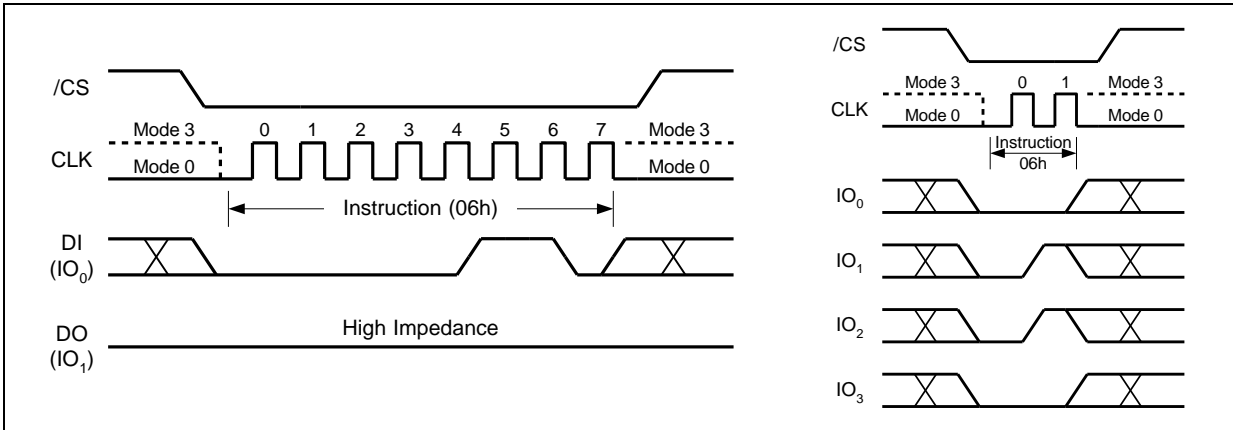

Figure 5. Write Enable Instruction for SPI Mode (left) or QPI Mode (right)
Instructions vary in length from a single byte to several bytes and may be followed by address bytes, data bytes, dummy bytes (don't care), and in some cases, a combination. Instructions are completed with the rising edge of edge /CS. Clock relative timing diagrams for each instruction are included in Figures 5 through 57. All read instructions can be completed after any clocked bit. However, all instructions that Write, Program or Erase must complete on a byte boundary (/CS driven high after a full 8-bits have been clocked) otherwise the instruction will be ignored. This feature further protects the device from inadvertent writes. Additionally, while the memory is being programmed or erased, or when the Status Register is being written, all instructions except for Read Status Register will be ignored until the program or erase cycle has completed.
The Write Enable instruction (Figure 5) sets the Write Enable Latch (WEL) bit in the Status Register to a 1. The WEL bit must be set prior to every Page Program, Quad Page Program, Sector Erase, Block Erase, Chip Erase, Write Status Register and Erase/Program Security Registers instruction. The Write Enable instruction is entered by driving /CS low, shifting the instruction code “06h” into the Data Input (DI) pin on the rising edge of CLK, and then driving /CS high.